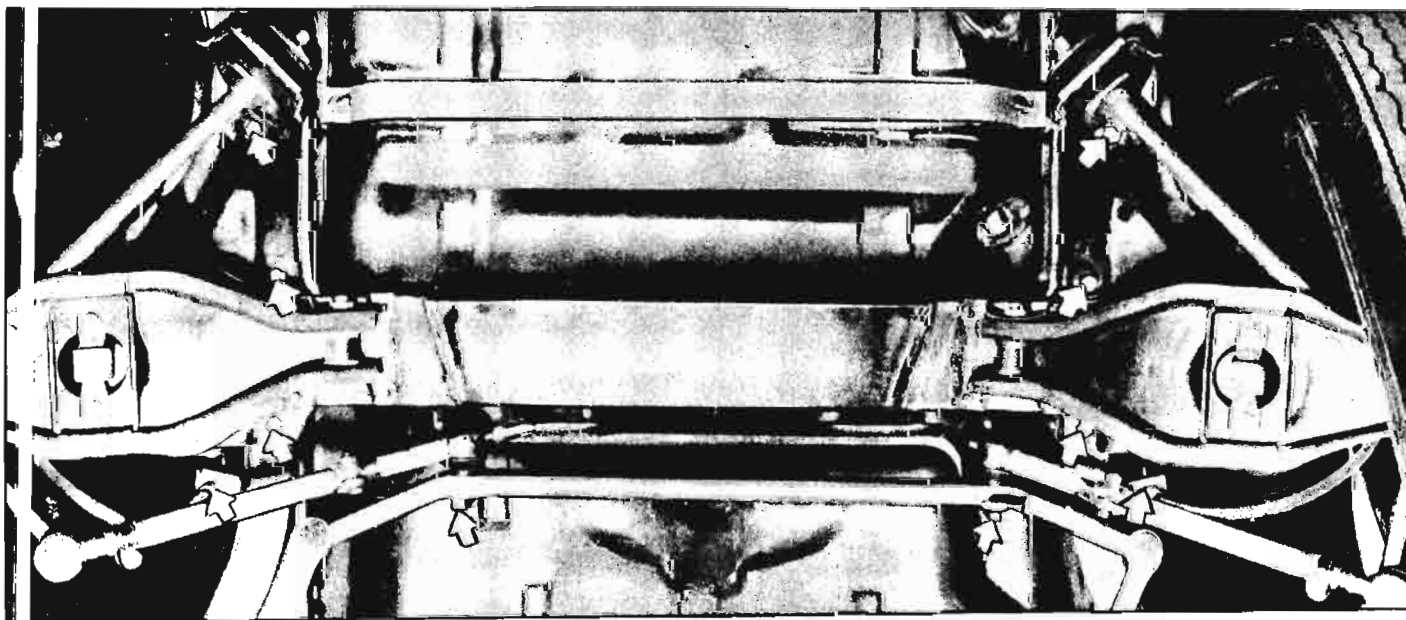

Fig. 3-22—Front Cross Member Attaching Points
2. Remove both brake pipes from the brake hoses and remove the hoses from the body brackets (fig. 3-22).
3. Remove the two cotter keys and nuts that secure the inner ends of the tie rods to the relay rod (fig. 3-22).
4. Place the front post of a hoist (or other means to allow lowering and raising of crossmember) under the crossmember, and remove the six bolts (three each side) that attach the crossmember to the frame (fig. 3-22). One of the three bolts (per each side) is actually up through the strut rod bracket.